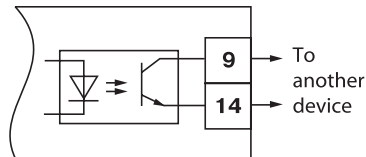

Figure 19.
3.1.10.3. The second channel of the instrument has doubling output - transistor optocoupler intended to control other similar devices (for example, the same counters, timing devices, etc.) (figure 19).